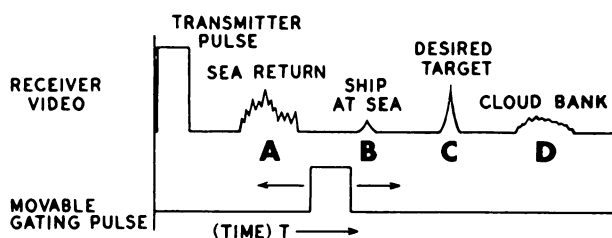

Figure 3B.
The receiver video signals shown in figure 3B are typical of the signals that a missile-borne radar is likely to pick up. These signals appear at the output of the receiver during the search phase of operation. After the receiver locks on, the output is quite different because of the action of the gate pulse and the enabling voltage. Items 7 and 8 discuss the action of the radar during the range-tracking phase.
7. If the radar whose signals are shown in figure 3B is locked on the desired target and the range of the target is decreasing, how does the gate pulse react to the changing range?
8. After the radar whose signals are shown in figure 3B is locked on the desired target echo, the receiver enabling pulse will eliminate all signals except the